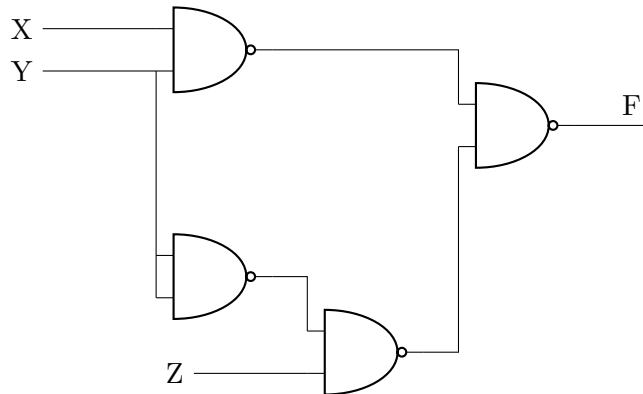

Figure 3.7:
20. Find F in the Digital Circuit given in the figure below in Fig. 3.7. (GATE IN 2016)